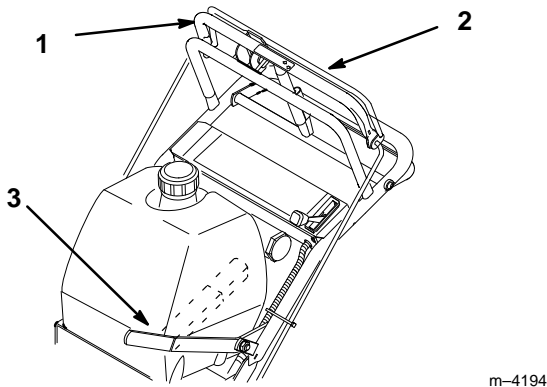

Figure 15
1. Pull on the upper control bar to stop the machine (Fig. 15).
2. Hold the bail against the upper control bar (Fig. 15).
3. To engage blade(s), push the blade control lever firmly forward, until it latches over-center (Fig. 15).
1. To disengage the blade(s), pull blade control lever rearward, all the way (Fig. 15).